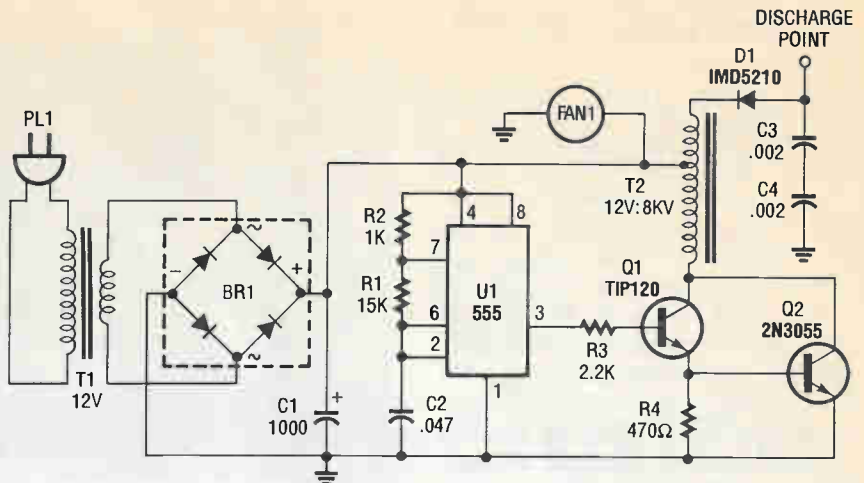

Fig. 1. This is the simple schematic for the Negative-Ion Generator. Note that it is basically a timer that induces a high voltage in the windings of T2.
**The Ion Generator.** The design of the Negative-Ion Generator is fairly straightforward (see Fig. 1). The circuit is a high voltage generator. It contains a standard 555 timer that's used to generate square-wave pulses. The pulses are applied to the base of the TIP120 NPN Darlington transistor. The Darlington provides sufficient current to the base of the 2N3055 power transistor to turn it on. Each time that happens, current flows through the high voltage autotransformer, T2. The high voltage lead of the transformer is connected to a 10 kilovolt high voltage diode. Notice the polarity of the diode. It is biased to place a negative charge on C3 and C4, leaving the discharge point negatively charged. The voltage at the discharge point negatively charges the air forced past it by the fan.